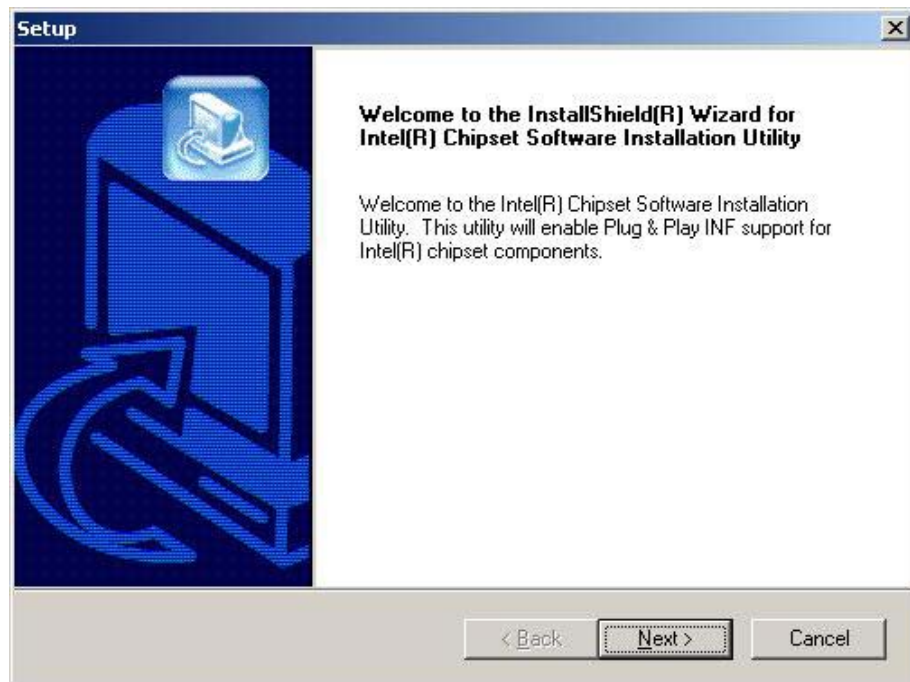

Figure 6-2: Welcome Screen
Step 3: The “Welcome” window in **Figure 6-2** appears next.